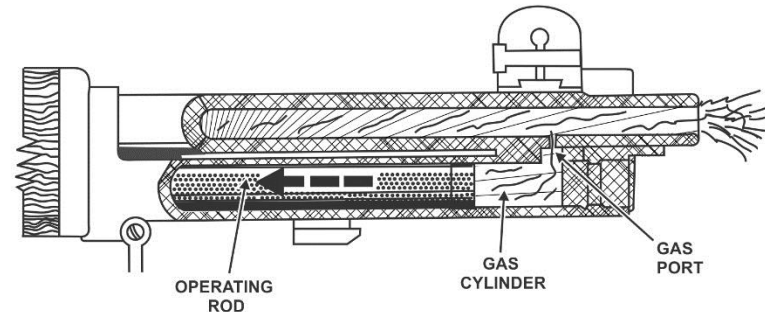

Figure 62. Action of gas moving operating rod
- 5) **Unlocking.** Unlocking occurs after the round is fired. Once the round is initiated, a small portion of the gas expands through the gas port into the gas cylinder, forcing the operating rod to the rear (fig 62). The camming surface inside the recess in the hump of the operating rod, in combination with the guideway in the side of the receiver, forces the operating lug of the bolt upward, disengaging the locking lugs from their recesses in the receiver. The bolt is thus unlocked and ready to be moved to the rear.